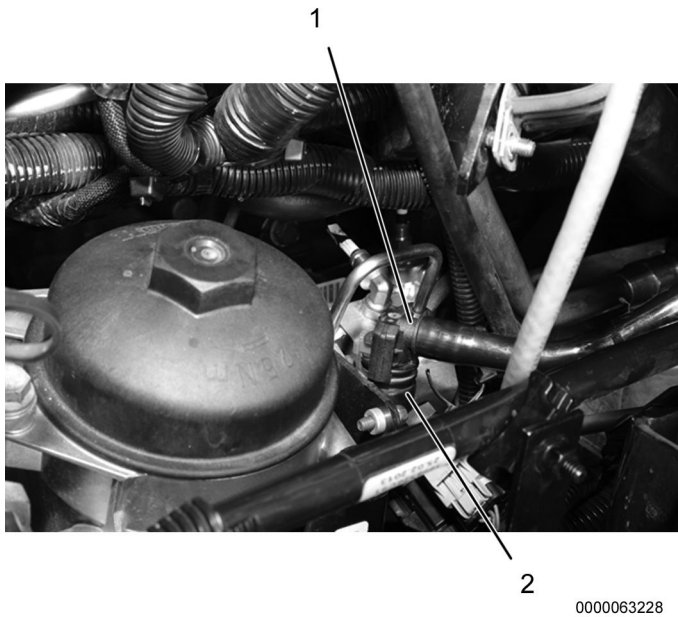

Figure 14. Fuel Return Tube.
28. Remove cap ZTSE4891 from aftertreatment fuel doser module (Figure 14, Item 2) and connect fuel return tube (Figure 14, Item 1) onto aftertreatment fuel doser module.